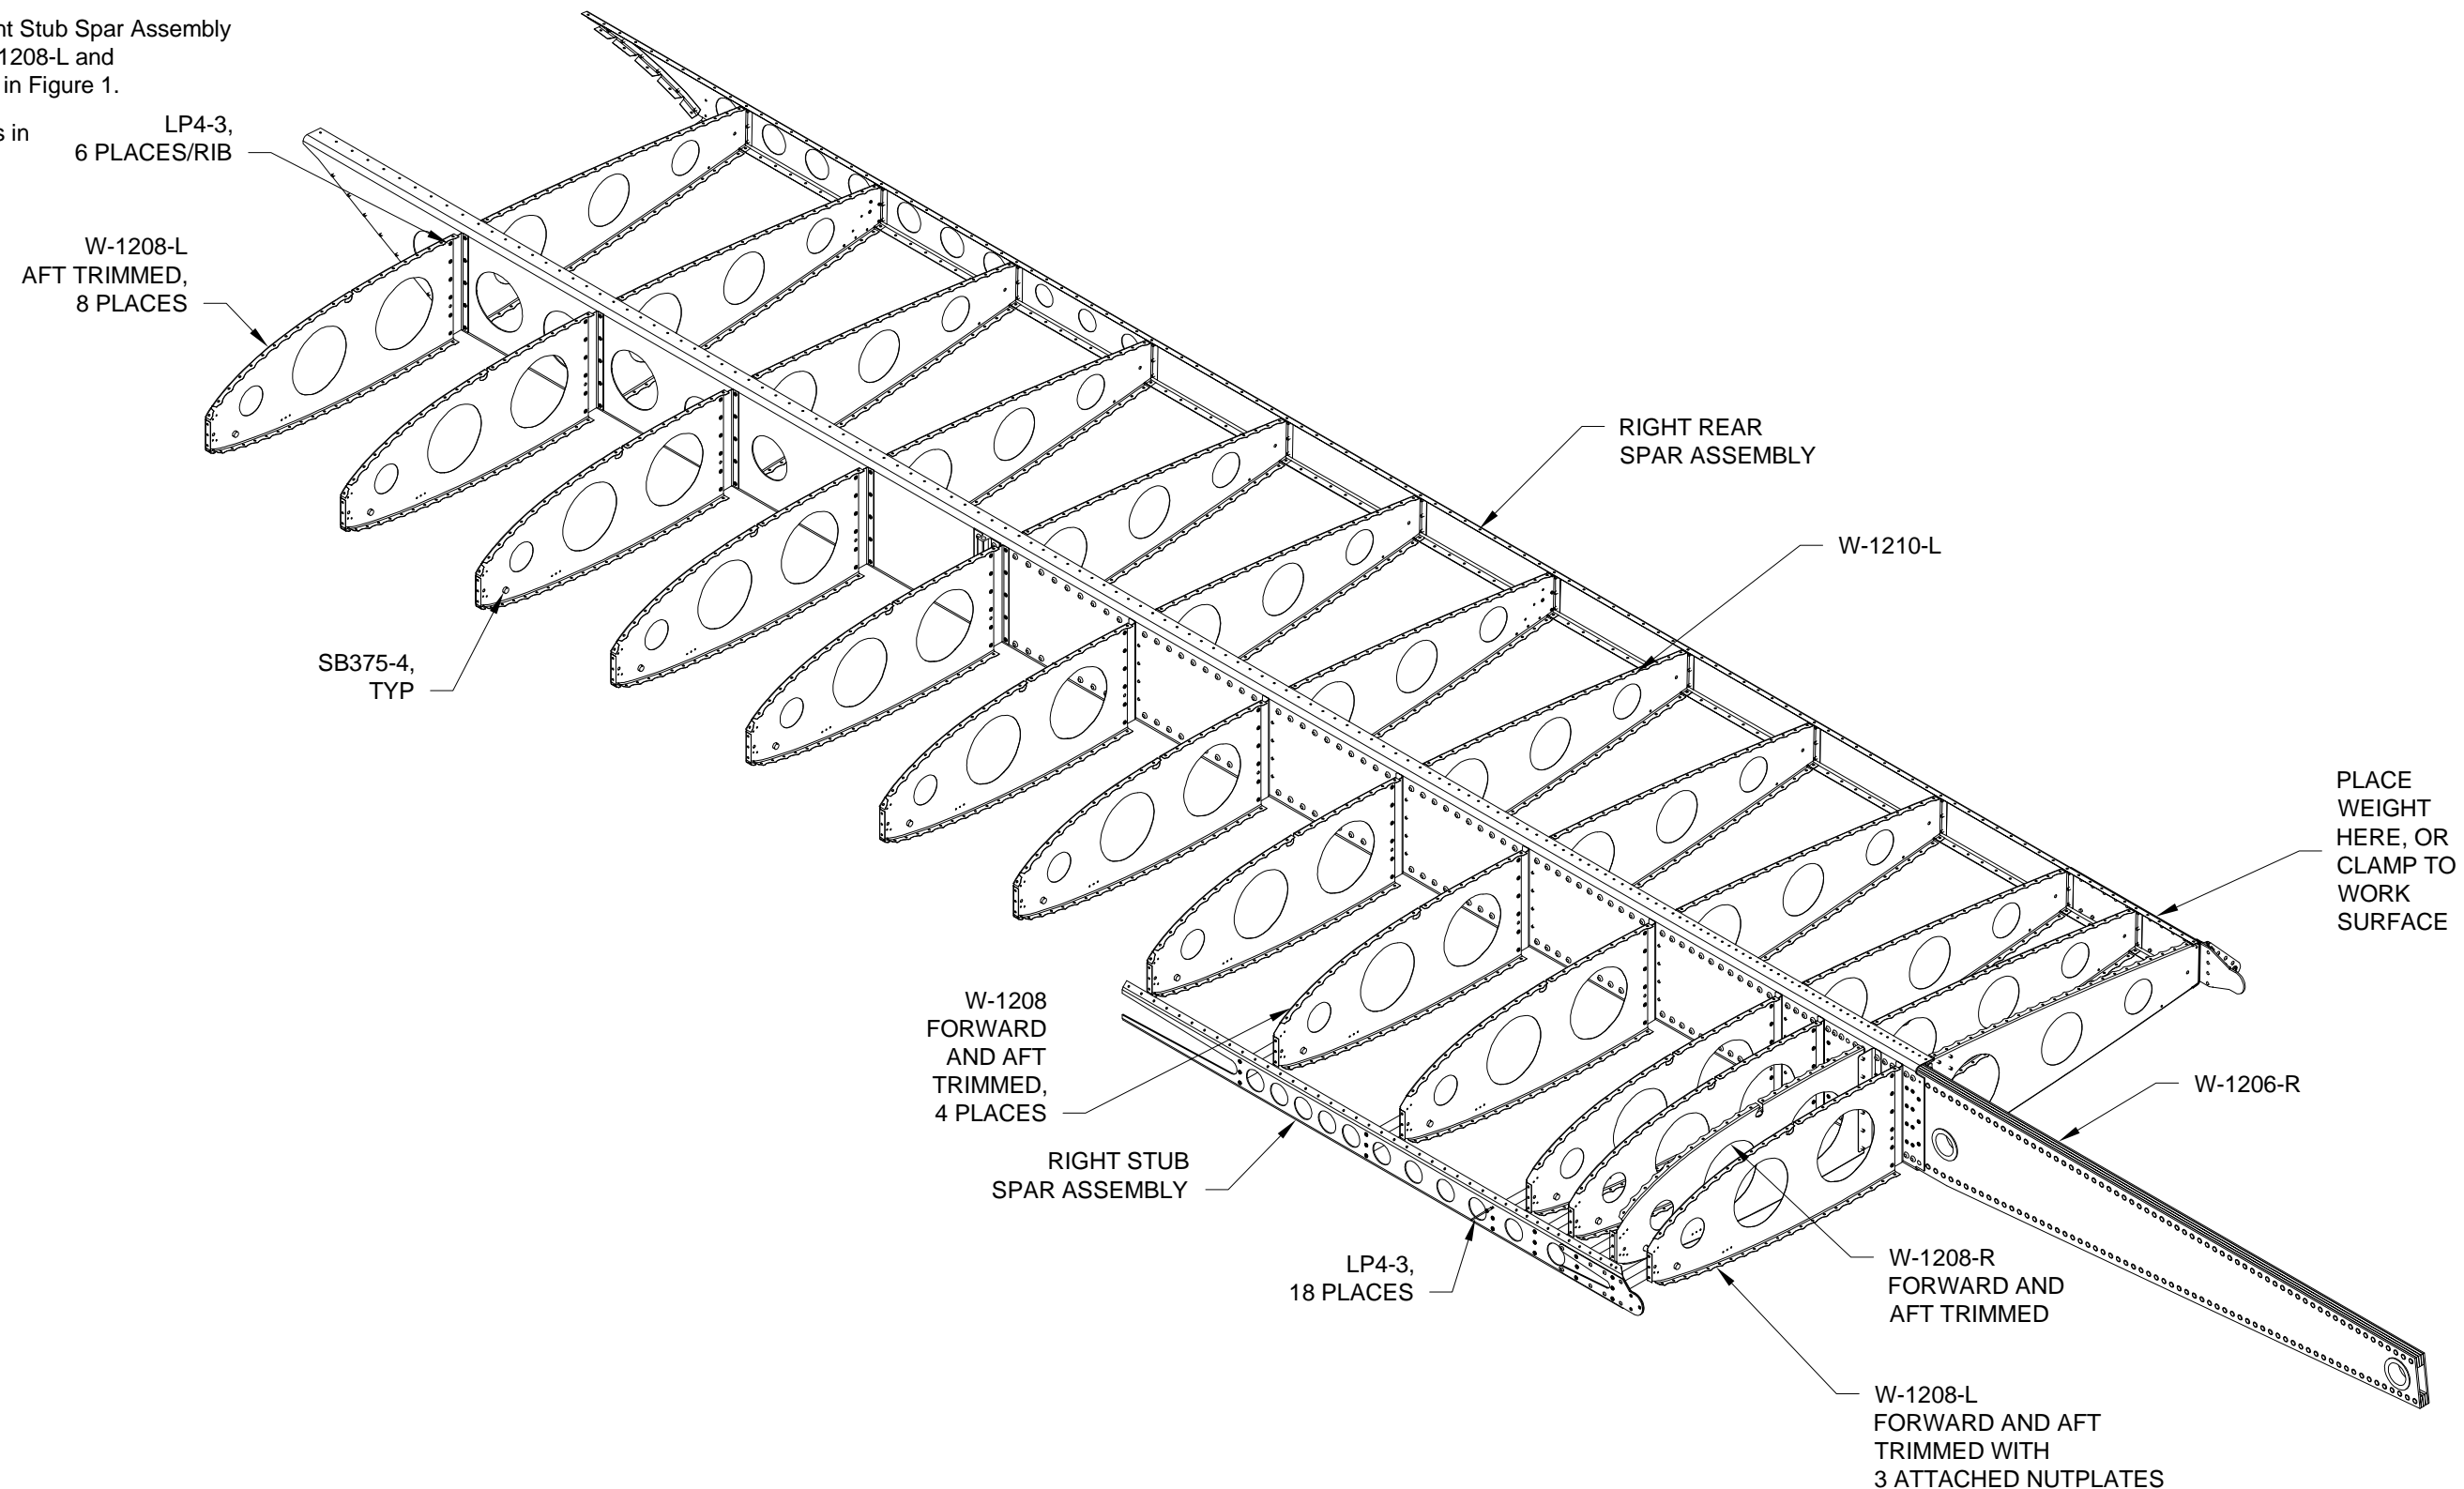

FIGURE 1: ATTACHING THE NOSE RIBS
Step 5: Cleco then rivet the Right Stub Spar Assembly to the forward flanges of the W-1208-L and W-1208-R Nose Ribs as shown in Figure 1.
Step 6: Insert the snap bushings in the W-1208 Nose Ribs as shown in Figure 1.